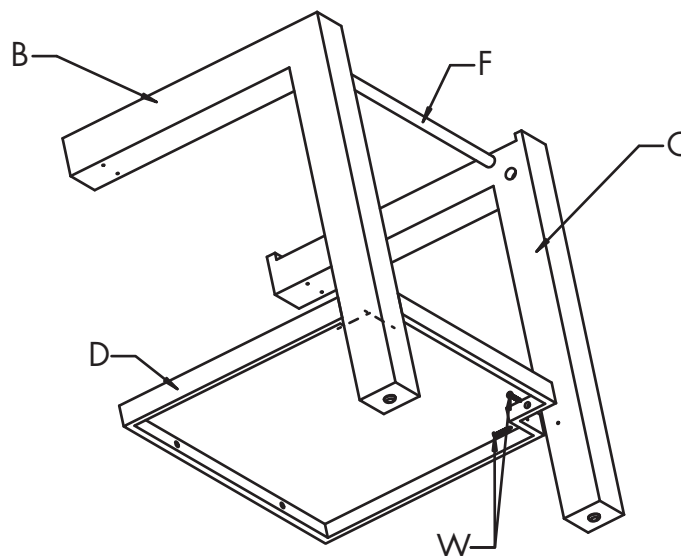

Figure 2
- With assistance, attach **Right Leg (C)** to the assembled parts using the **Shelf Screws**.
- Refer to Figure 2.